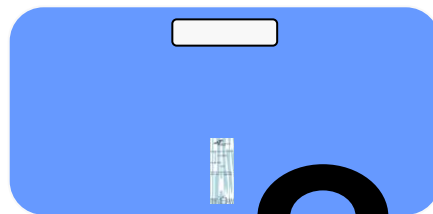

Figure 4
3. Stick the i-Pass to the **bottom** of the interior surface and press it firmly against the windscreen. (As illustrated on figure 4)